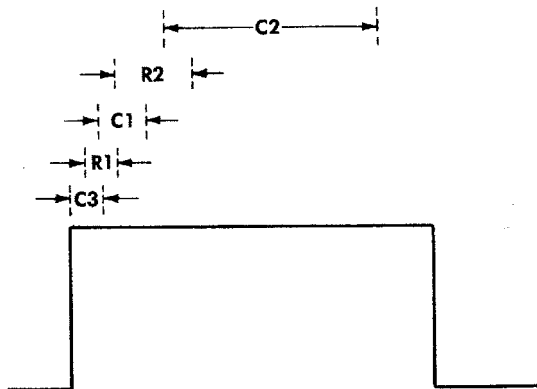

Fig. 3-1. Pulse area affected by each compensation adjustment.
The P6015 Compensating Box contains seven adjustable components. All except R5 (see schematic) vary the time constant of RC networks. The adjustable components and their effect on a 1 kHz square wave (see Fig. 3-1) are as follows:
g. Set the oscilloscope time/div to $50 \mu\text{s}/\text{div}$ and display the leading corner of the square wave. Adjust R1, C3 and C1 for the sharpest front corner without overshoot (see Fig. 3-1). Each may have to be adjusted several times for the sharpest corner. Maintain a front-corner amplitude that is consistent with the rest of the square wave. The R1-C3 combination affects the very corner and C1 affects the area immediately following, with some overlap.